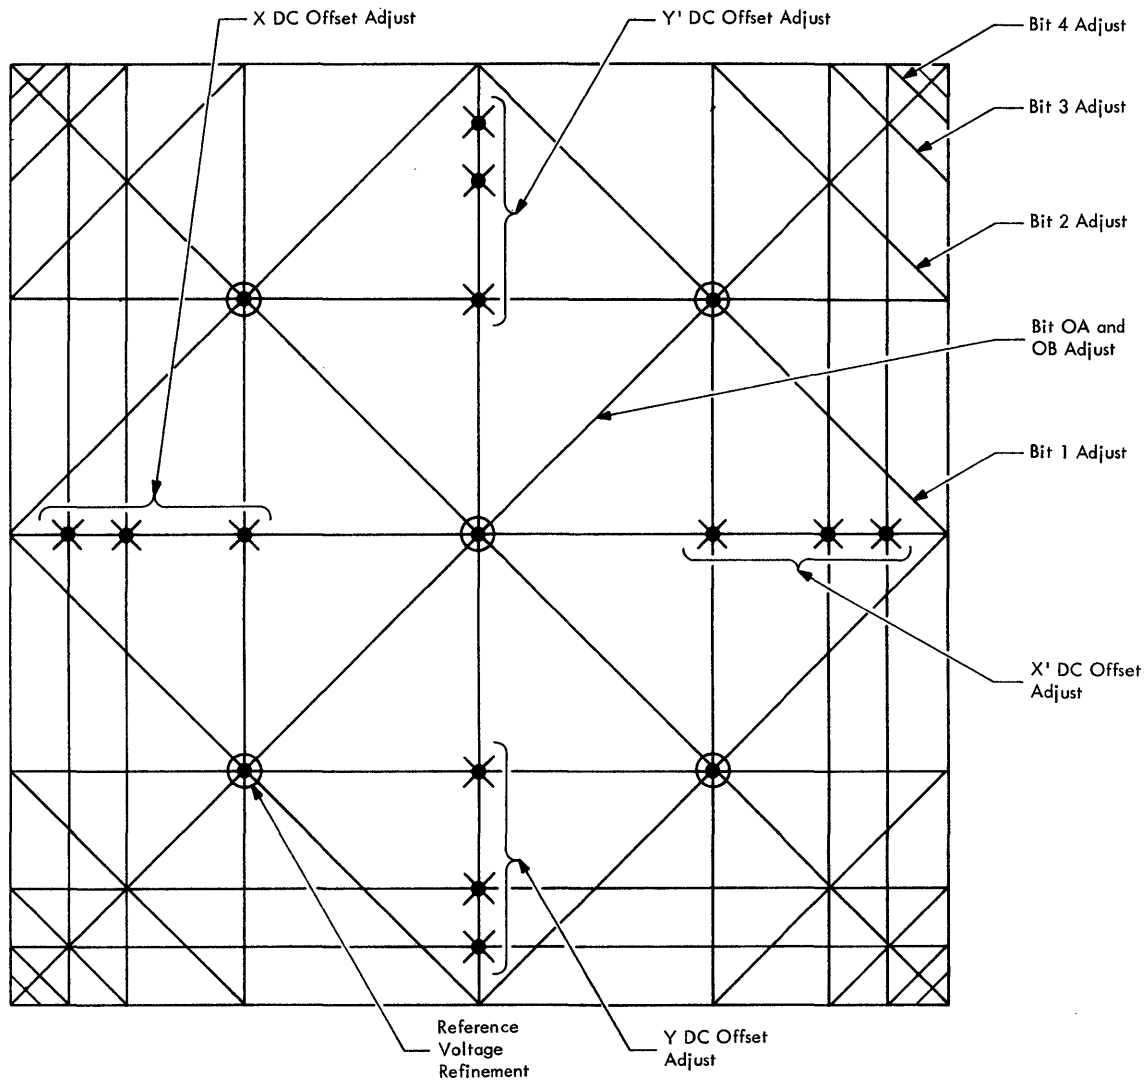

Figure 4-3. Absolute Vector Graphics Alignment Pattern
Proper alignment of the vector generator depends on proper alignment of the digital and analog circuits for the basic unit. Use absolute vector graphics alignment pattern (program F757 and F767, pattern 1) for this procedure. (See Figure 4-3.)
2. Place unit off-line, set absolute vector graphics (AVG) feature switch to ENABLE, and display AVG alignment pattern (Figure 4-3).
9. If the AVG feature cannot be aligned, make a comparison between AVG alignment pattern (Figure 4-3) and photographs (Figure 4-4) to determine whether pattern indicates open or shorted switches.
- (1) Bit 4. An open switch in bit 4 affects all vectors in the pattern.
- (2) Bit 3. An open switch in bit 3 affects all vectors that are equal in length to the Bit 3 Adjust and longer (i.e., bit 2 Adjust, etc.). The vectors labeled bit 4 are unaffected (Figure 4-3).
- (3) Bit 2. An open switch in bit 2 affects all vectors that are equal in length to the Bit 2 Adjust vectors and longer. Shorter vectors such as Bit 3 Adjust and Bit 4 Adjust are unaffected.
- (4) Bit 1 and Bit 0. Similar effects can be observed for open switches in bit 1 and bit 0.
- e. Check for linearity of vectors labeled Bit 4 Adjust, Bit 3 Adjust, and Bit 2 Adjust (Figure 4-3). If these vectors are linear, problem has been isolated to one or more of the three identical cards removed. If vectors are not linear, proceed to step 13.